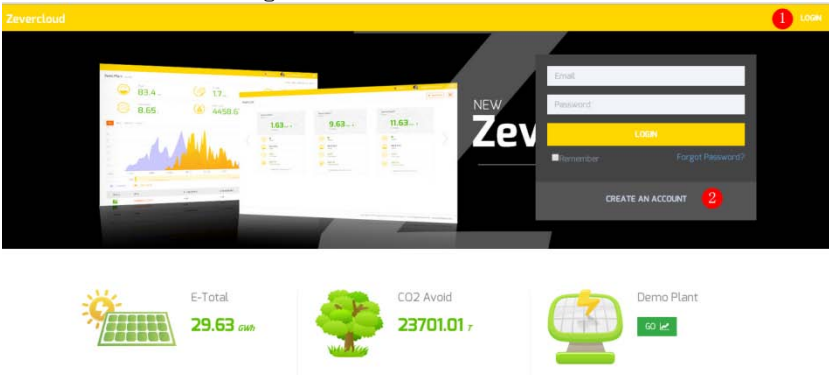

Fig. 7-1: Registration and login page
Step 1: Input <http://www.zevercloud.com> in the browser and open the main page of Zevercloud as shown in Fig. 7-1.
Step 2: Click the button marked with a "1" in Fig .7-1, click "CREATE AN ACCOUNT" to enter the registration page, and register a user account according to the prompts.
Step1: Enter <http://www.zevercloud.com> in the address bar of the browser and open the home page of Zevercloud as shown in Fig. 7-1.
Step2: Input your user name and password in the area marked with a "1" in Fig. 7-1 to login to Zevercloud. If the login is successful you will enter the web page with a PV plant list as shown in Fig. 7-2.